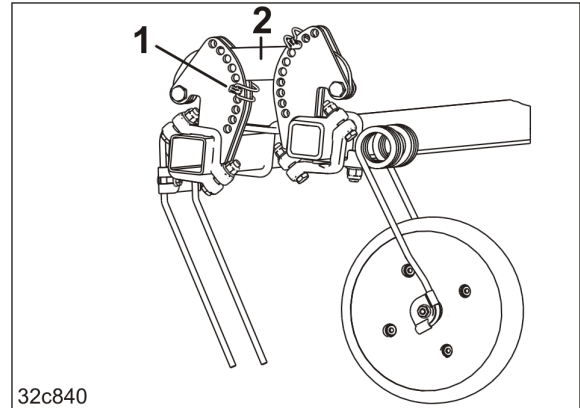

Fig. 195
3. Change the pitch of the tines to the ground by repositioning the safety pin for the tube (Fig. 195/1)
- o below the link (Fig. 195/2),
The deeper the safety pin for the tube (Fig. 195/1) is inserted in the adjuster segment, the flatter the pitch.